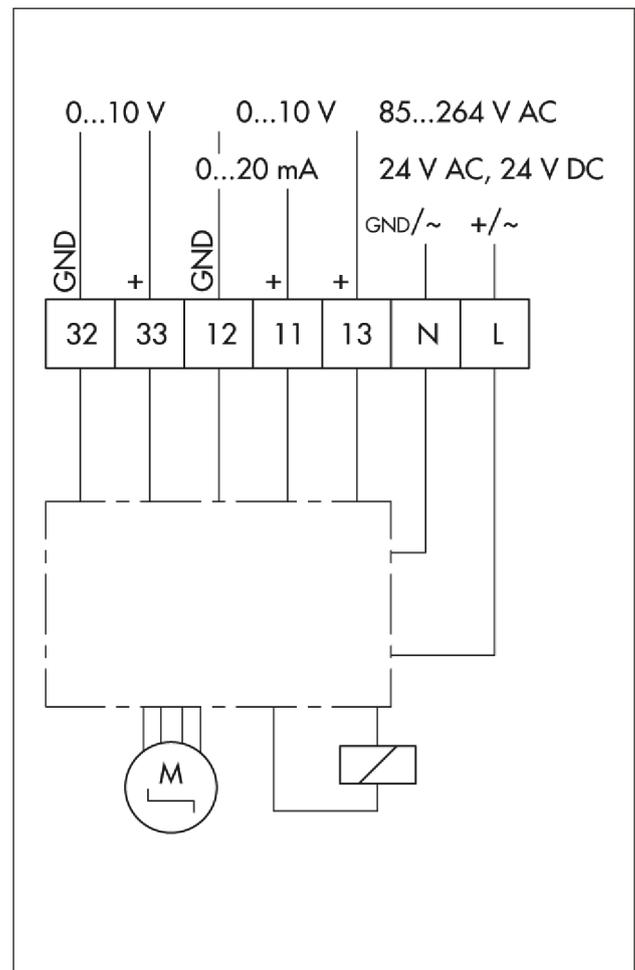

Fig. 10: Electrical connection · Positioner
- ⇒ Guide the connecting cables through the cable gland into the housing and connect as shown in Fig. 10.